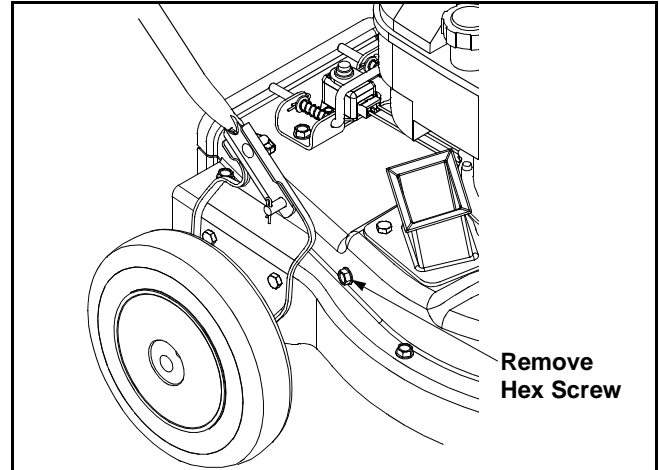

Figure 10
- Remove hex screw on right side of unit that attaches to the flail screen. See Figure 10.